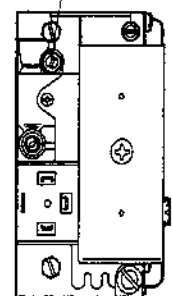

Fig.20a
- 6.6.7 Turn the appliance 'on' during the time the appliance lights at the reduced gas rate adjust the screw marked '1 step' (Fig.20a). Turn clockwise to increase anticlockwise to decrease.